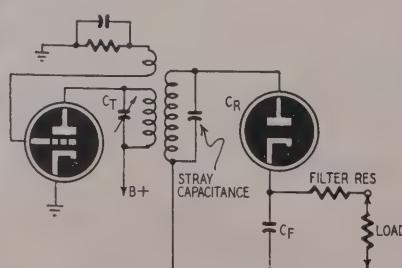

Fig. 1—Basic circuit of most r.f.-oscillator-type high-voltage power supplies.
R.F. power supplies of the type shown in Fig. 1 are widely used in television, oscilloscopes, radiation counters, and other devices that require very high voltages at currents up to about 1 ma. Compared with line-frequency transformer-rectifiers, they have the advantages of low cost, small size and weight, and safety, but the voltage regulation is generally poor for two reasons: